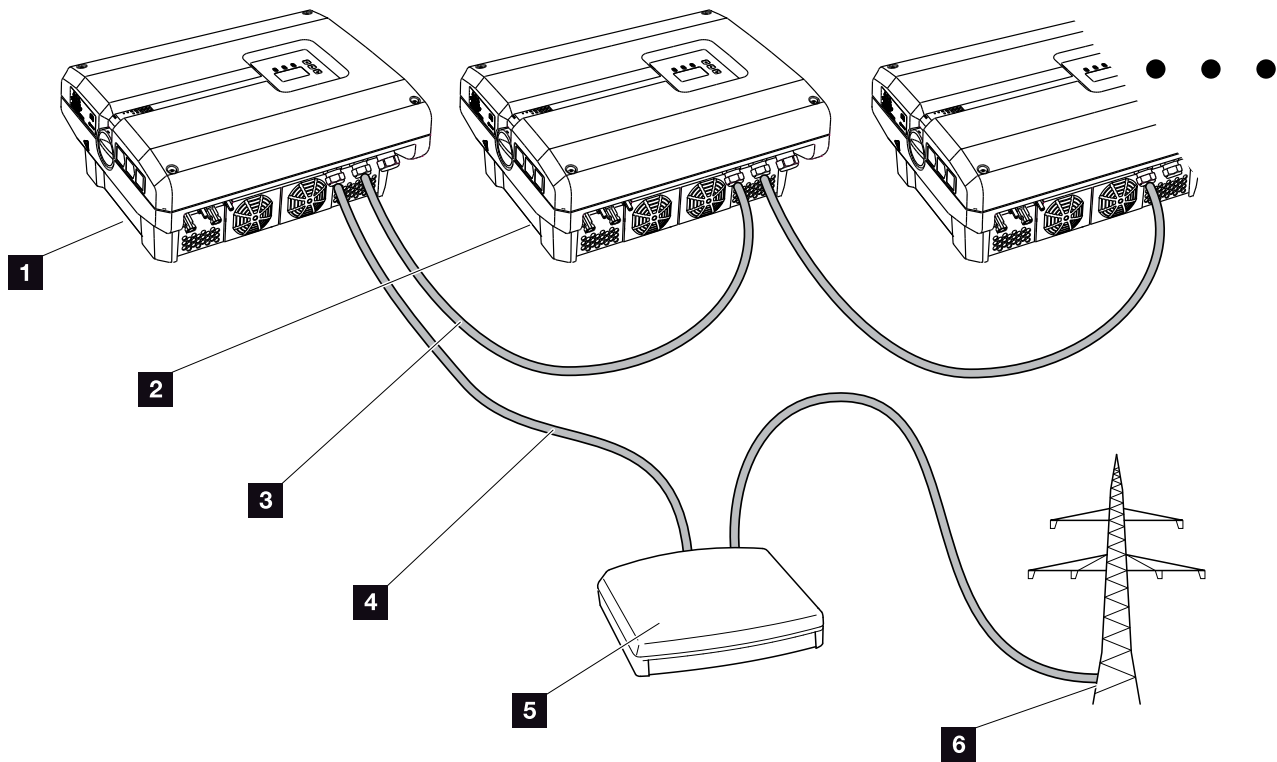
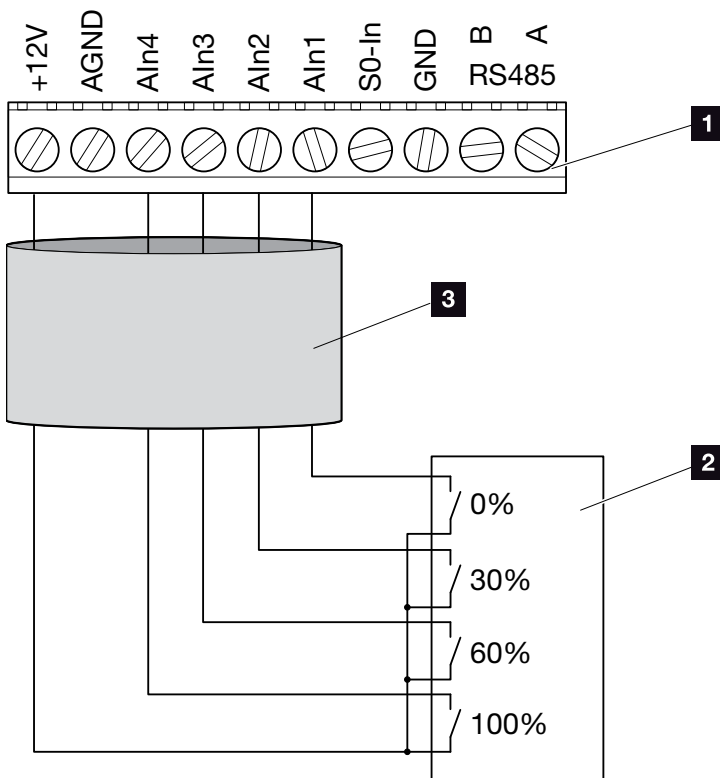

Fig. 51: Configuration of the ripple control receiver with several inverters (Ethernet networking)
Fig. 52: Connection of ripple control receiver
Fig. 51
3. Connect the ripple control receiver to the master inverter Fig. 51 It. 1 at the analogue interface terminal (10-pin). Fig. 52
The ripple control receiver may only be connected to the master inverter. Fig. 51